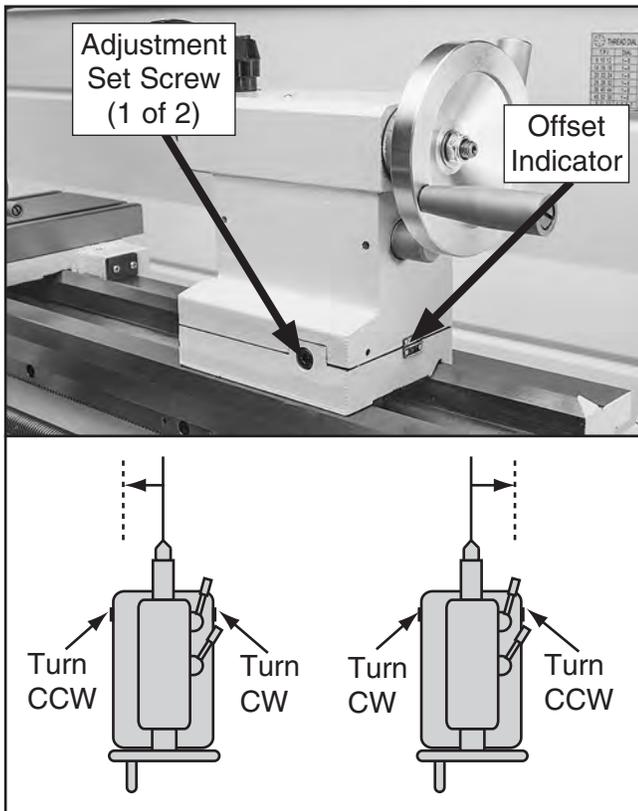

Figure 40. Set screw adjustment in relation to tailstock movement.
Note: The marks on the offset indicator (see **Figure 40**) are arbitrary. For a precise offset, use a dial indicator to check quill movement while adjusting the screws.
2. Rotate adjustment set screws in opposite directions for desired offset (see **Figure 40**).